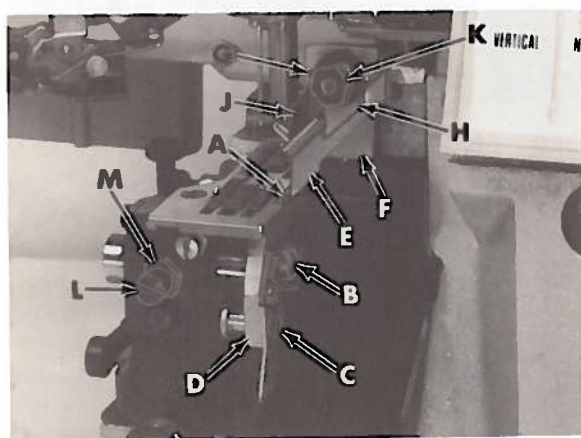

Fig. 21
Upper edge of knife (A, Fig. 21) is set even with top surface of throat plate. Positioning of the lower knife cutting edge left to right to obtain proper seam width is determined by the width of the stitch tongue of the throat plate.
With upper knife (E, Fig. 21) at lowest point of travel; position front tip of its cutting edge 1/32 inch (.8mm) below cutting edge of lower knife by moving knife holder (F) left to right. Upper knife must be held firmly against lower knife during this adjustment. Tighten upper knife holder screw (G) to lock upper knife in position. Assemble knife clamp (H) and chip guard (J) in position using nut (K). Set chip guard (J) against top surface of upper knife and slightly back of its cutting edge. Tighten nut (K).